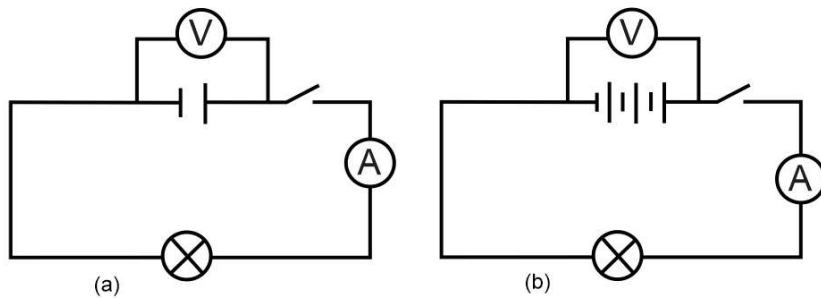

Fig. 10.6: Cells connected in series
- Connect a simple circuit as shown in Fig. 10.6 (a)
- Increase the cells to two, then three and measure total voltages and current. See Fig. 10.6 (b)